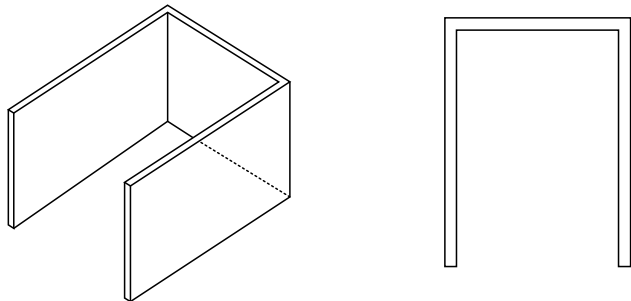

Figure D.1 - Outdoor area - Example 1
1. An appliance is considered to be outdoors if installed with shelter no more inclusive than with walls on three sides, but with no overhead cover; all openings must be permanently open; sliding doors, garage doors, windows, or screened openings are not considered as permanent openings. (See Figure D.1)